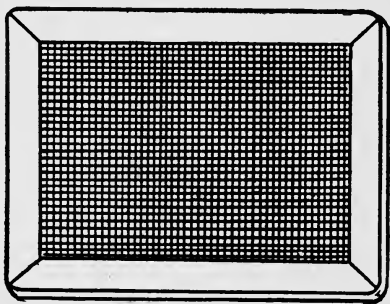

FIG. 70. A FRAME FOR PAPER MAKING
*The Molds You Need.*— Make half-a-dozen frames of wood  $\frac{1}{4}$  inch thick and  $\frac{1}{2}$  an inch wide, and about 5 x 8 inches on the sides; and cover these with brass wire netting having about 20 wires to the inch as shown in Fig. 70. School slate frames are good for this purpose.